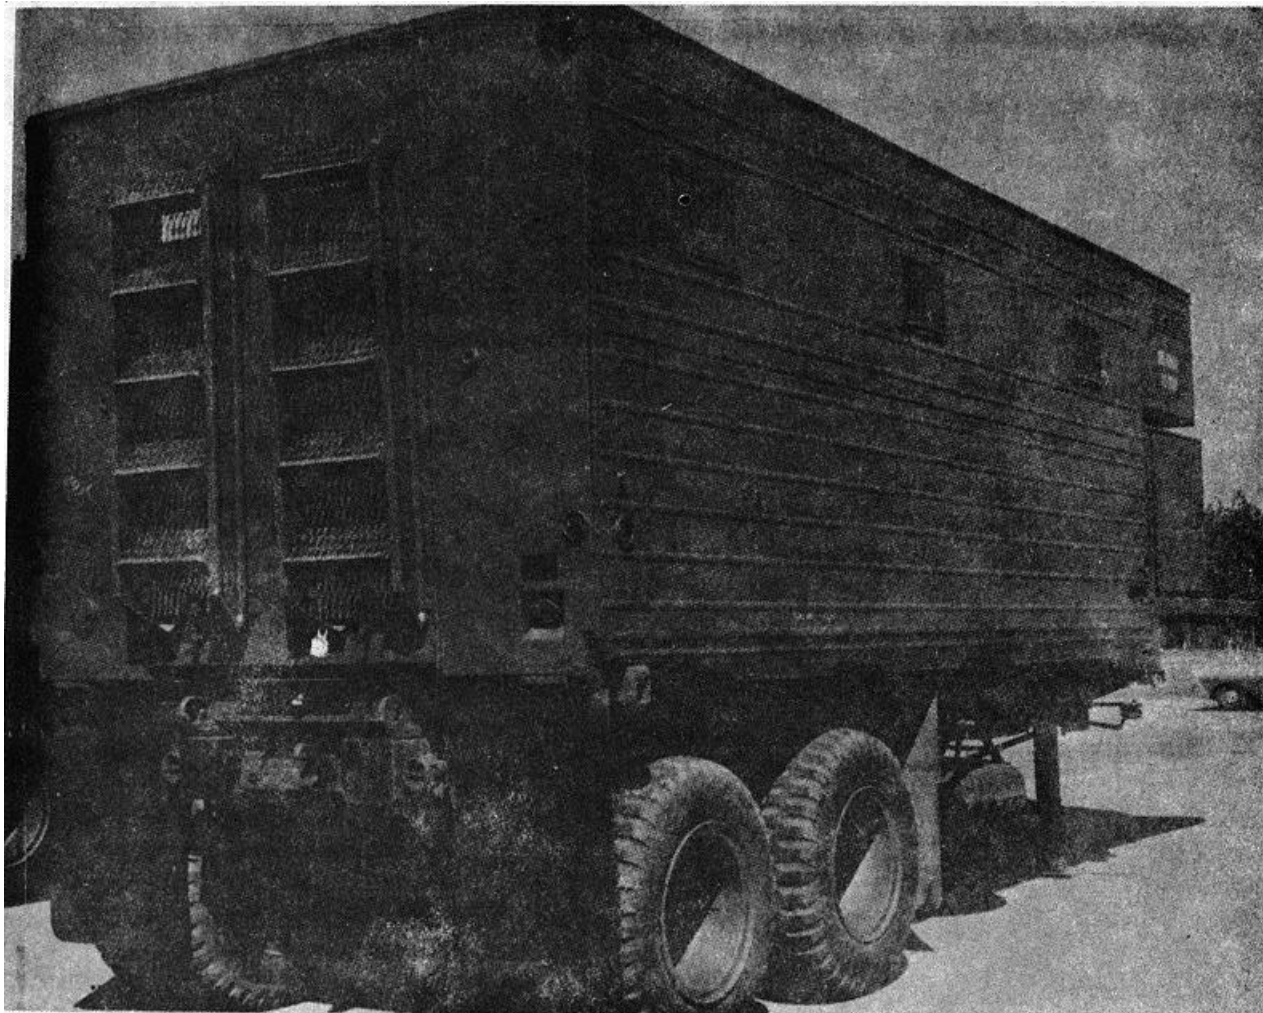

Figure 1. Shop Set C-3, Flaw Detection.
- (4) *Utility system.* The utility system consists of one each, type V storage cabinet. The cabinet is equipped with 11 drawers for storing liquids and chemicals for use with the flaw detection equipment. Overall size of the cabinet is 32 5/8 inches high by 28 inches wide by 27 inches deep.
b. *Identification.* Identification and instruction markings are listed in figures 1 through 3.